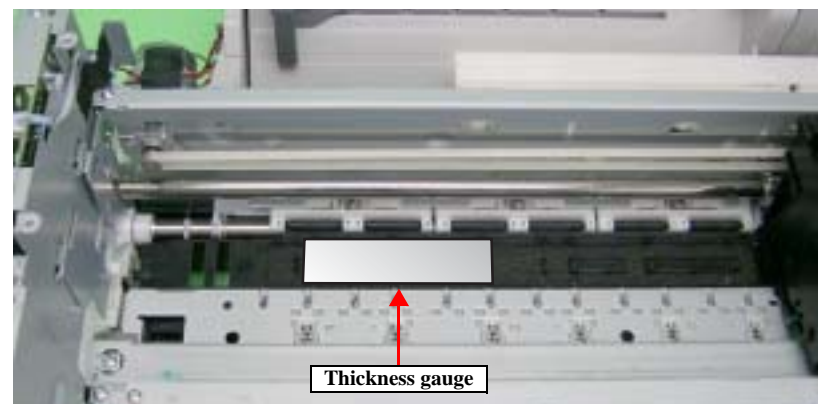

Figure 5-7. Placement Position for Thickness Gauge
16. Set the thickness gauge at position shown by refer to Figure 5-7 again.